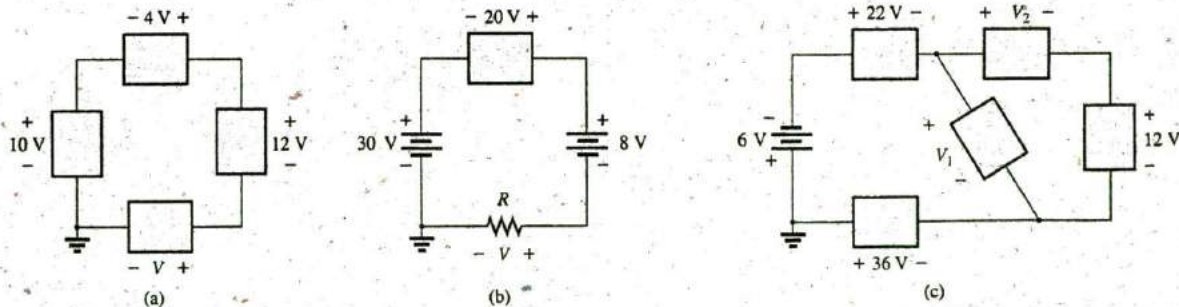

FIG. 5.105
21. Using Kirchhoff's voltage law, find the unknown voltages for the circuits in Fig. 5.105.